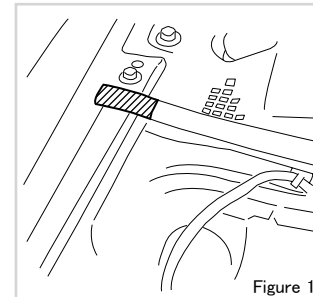

Figure 1
- 3) Trim the front panel weather strip, by cutting off the shaded area shown in Figure 1.